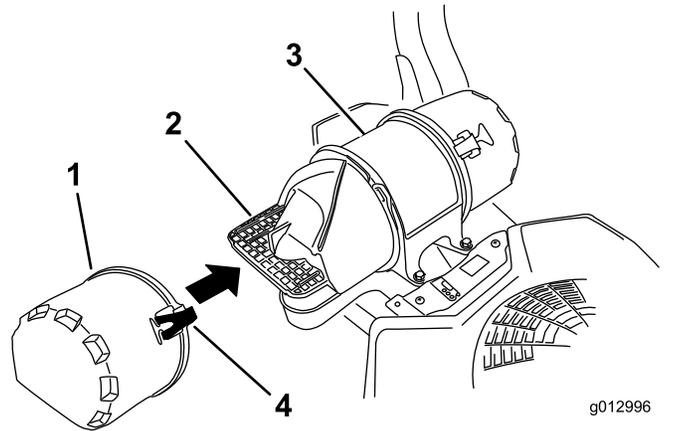

Figure 27
3. Release the latches on the air cleaner and pull the air-inlet cover off the air-cleaner body (Figure 27).
5. Install the air-inlet cover and secure it with the latches (Figure 27).
- Install the air-cleaner cover and secure the latches (Figure 27).